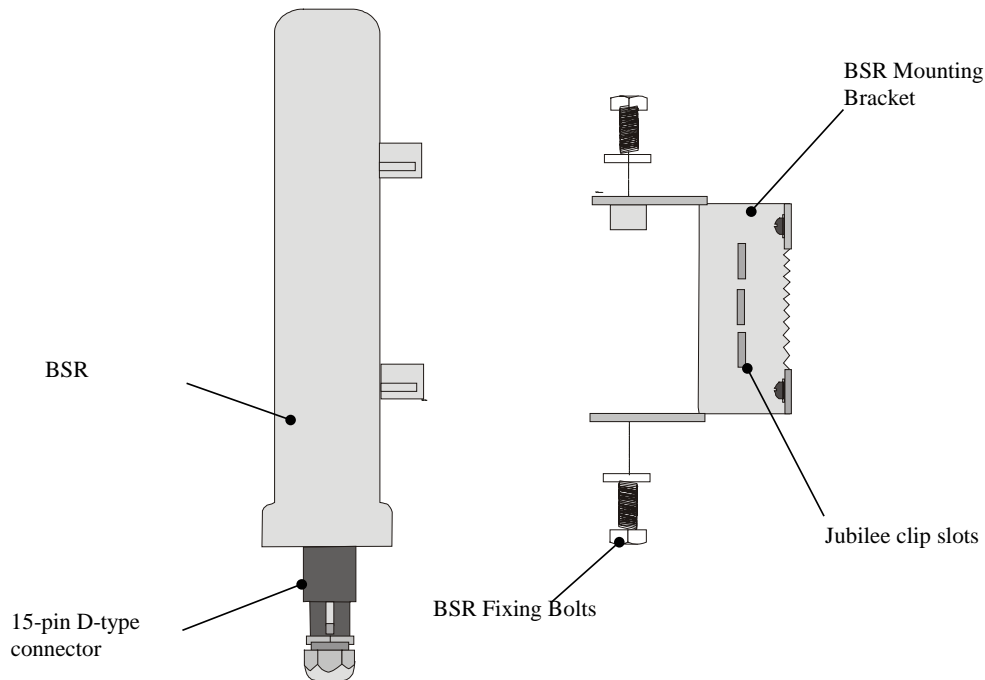

Figure 8-6: Attaching the mounting bracket to the SPR
1. Attach the mounting bracket to the SPR using two stainless steel bolts, as shown in Figure 8-6.